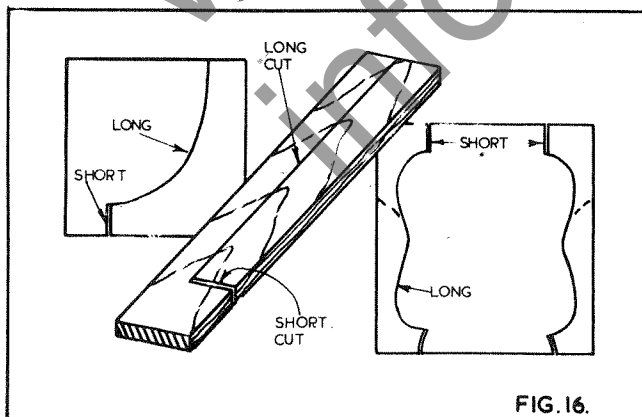

FIG. 16
- (b) **MAKE SHORT CUTS FIRST** - See Fig. 16. When a choice of starting points is offered always make short cuts first. Back tracking out of a short cut can be done much more quickly than backing out of a long cut.